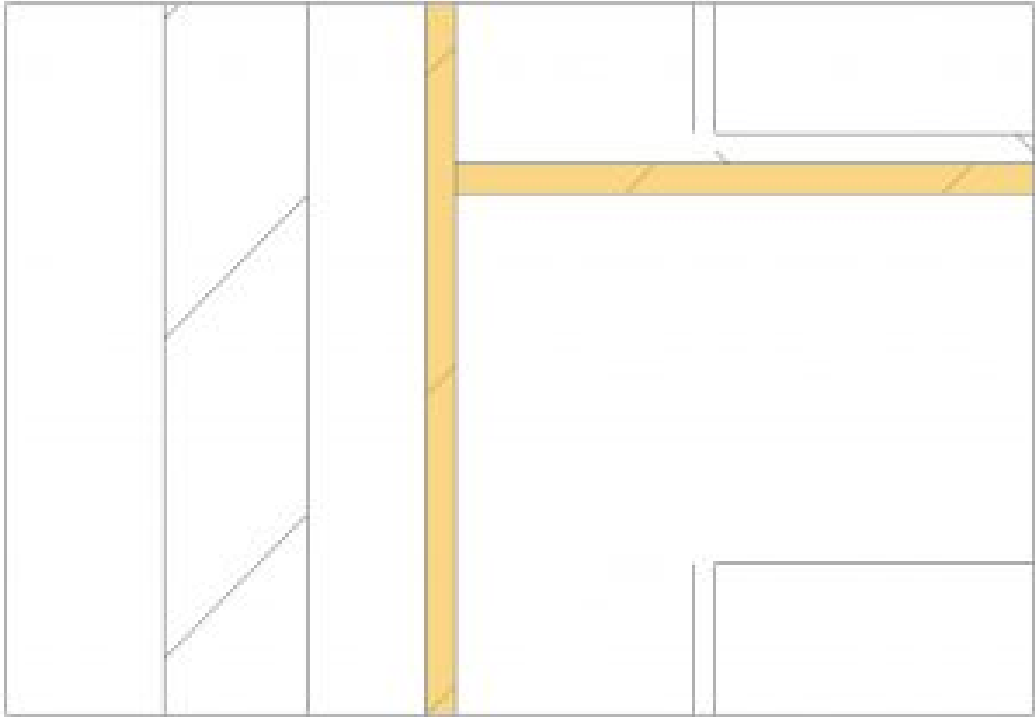

Figure 10.3 Filled regions (highlighted in yellow)
5. Place the same filled region for the flooring substrate under the finished floor as shown in Figure 10.3